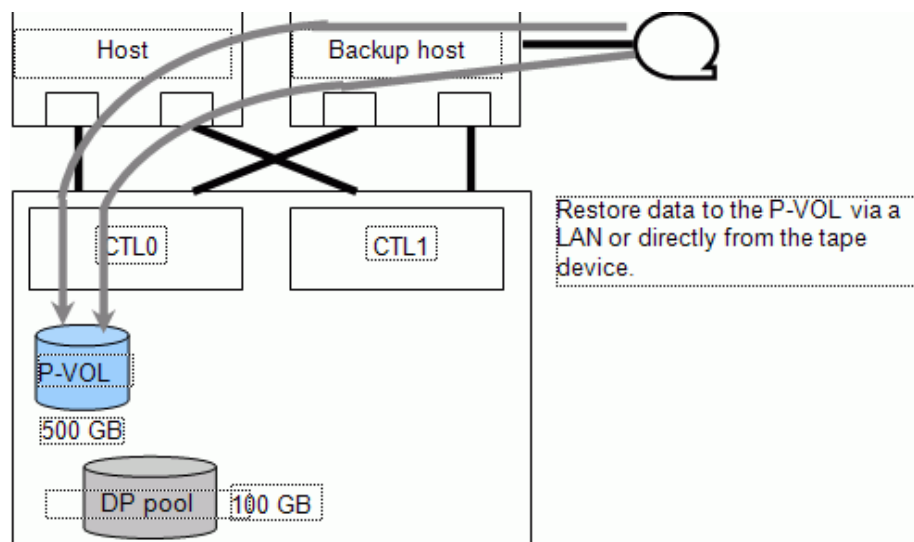

Figure 10-2: Direct restoration of P-VOL
- Return all pairs to Simplex (recommended in order to reduce build-up of data in the DP pool and impact to performance). See Figure 10-2.